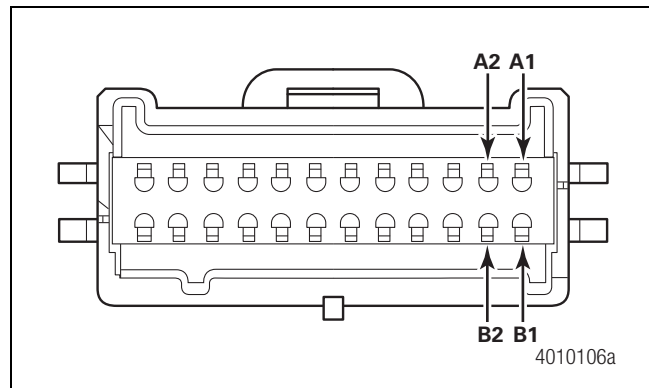

Figure 2.22
3. Measure from terminal A2 to terminal B2 on the vehicle harness side for right speaker resistance. Figure 2.22.